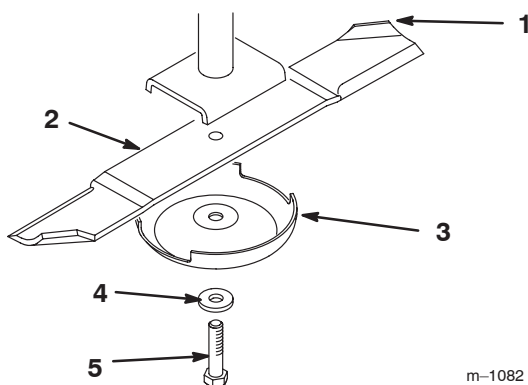
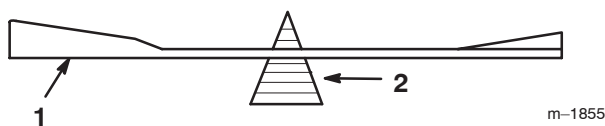

Figure 38
Figure 40
Hold the blade end using a rag or thickly-padded glove. Remove the blade bolt, washer, anti-scalp cup and blade from the spindle shaft (Fig. 38).
2. Check the balance of the blade by putting it on a blade balancer (Fig. 40). If the blade stays in a horizontal position, the blade is balanced and can be used. If the blade is not balanced, file some metal off the end of the sail area only (Fig. 38). Repeat this procedure until the blade is balanced.
1. Install the blade onto the spindle shaft (Fig. 38).
Important The sail part of the blade must be pointing upward, toward the inside of the mower to ensure proper cutting (Fig. 38).
2. Install the anti-scalp, lock washer, and blade bolt (Fig. 38). Torque the blade bolt to 85–110 ft-lb (115–140 N•m).